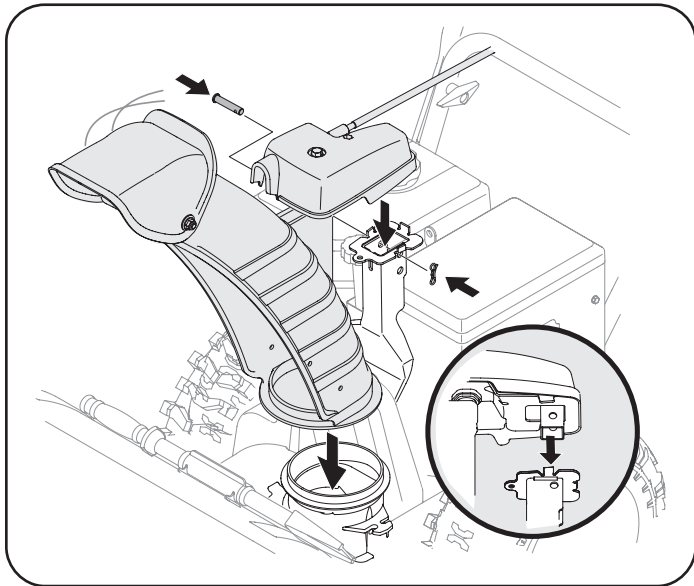

Figure 36
3. Place chute onto chute base and ensure chute control rod is positioned under handle panel. Secure chute control head to chute support bracket with clevis pin and bow-tie cotter pin removed in Step 1. See Figure 36.